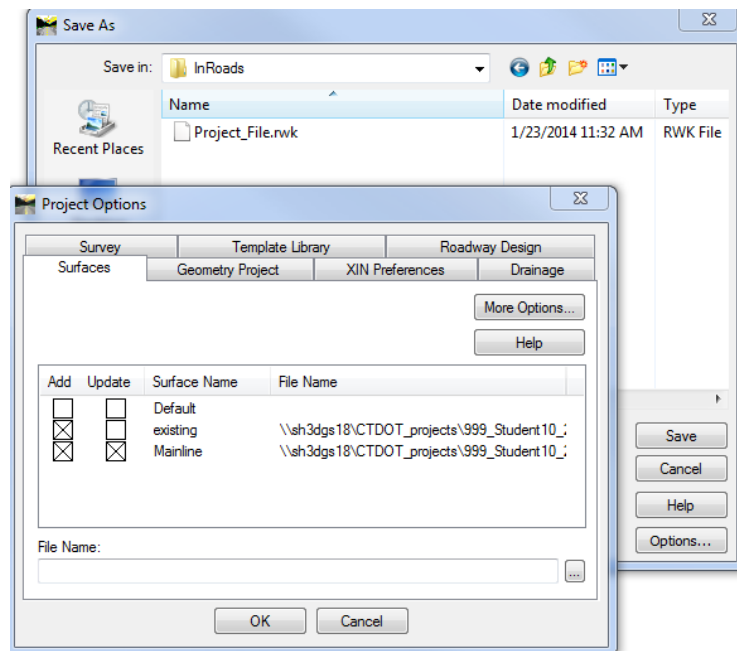

Figure 7-7 InRoads Save As & Project Options Dialog Box
- E. Click **OK, Save, Yes**. Replace the existing project file with this new and revised one. Select **Cancel** on the Save As dialog when done. See Figure 7-7